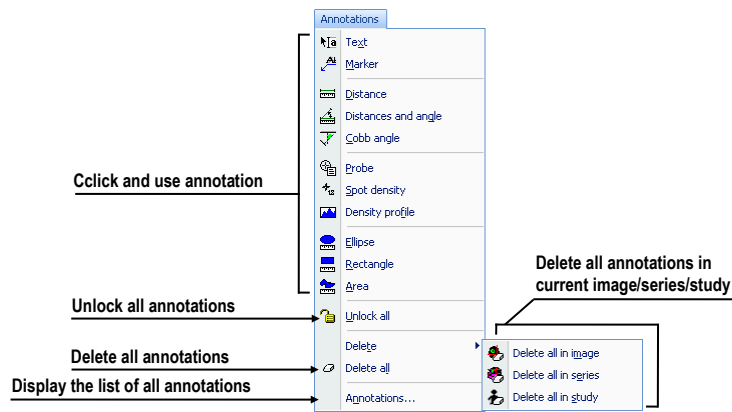

Figure 37 – Annotations menu
- **Annotations** – function for managing annotations in TomoCon. It allows you to create each type of annotation or measurement in the current view and to remove or edit selected annotation (see Figure 37).